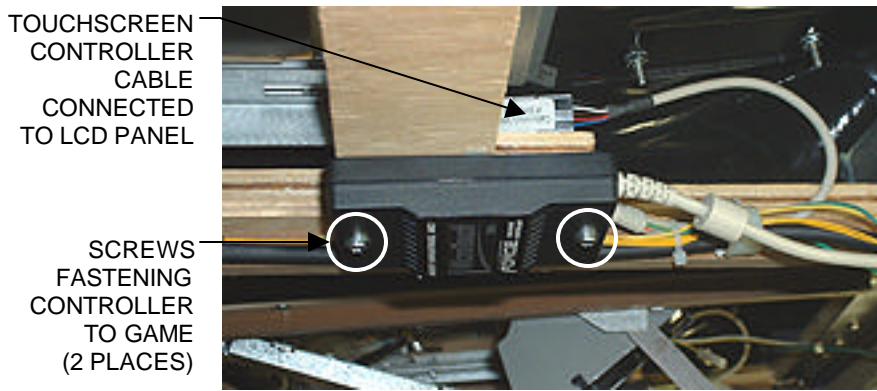

FIGURE 2 - CLOSEUP OF TOUCHSCREEN CONNECTOR MOUNTED ON BEZEL
4. Remove the screws fastening the touchscreen controller to the game and disconnect the cable from the back of the controller. Then locate and disconnect the Molex connector (orange and gray wires) running from the touchscreen controller cable to the main power harness. After disconnecting the ground screw, pull the cables out of the clamps. See Figures 2 and 3.